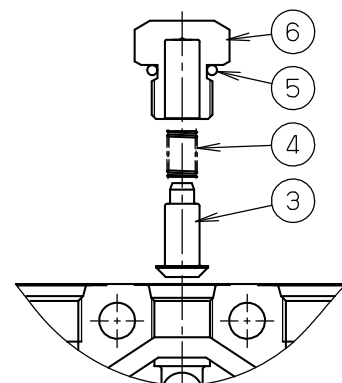

Fig.6 Check valve
- The numbers in fig.6 are the same as those in the PTO component. In the specifications and drawings.